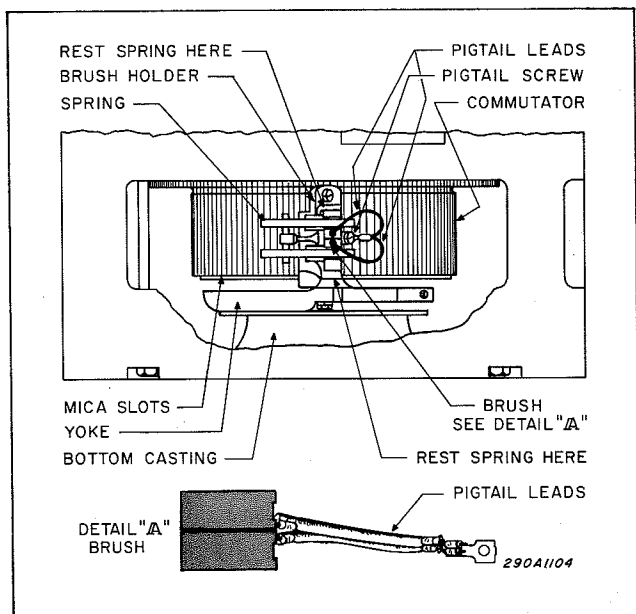

Figure 5-1 Single-phase Motor Brush Replacement
B. Motor Brush Replacement Single Phase (B) Model
3. See figure 5-1 while performing steps 3 through 10 of this procedure. Remove the pigtail screw from the brush holder, and lift the pigtail leads away from the holder.
4. Carefully lift the springs away from the two-segment brush and allow each spring to rest on the brush holder next to the brushes, as indicated in figure 5-1.
8. Install the replacement brushes in the brush holder making sure that the pigtail leads are next to each other as shown in detail "A" of figure 5-1.